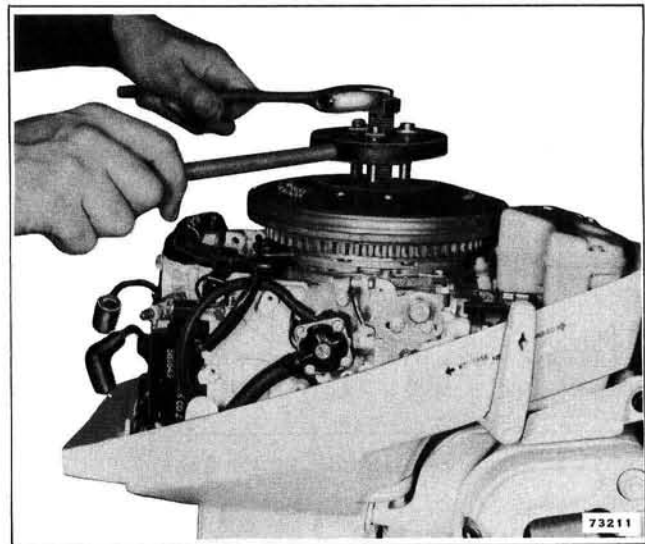

Figure 4-34. Removing Flywheel Nut
a. Remove the flywheel nut using a strap wrench or other suitable tool to hold the flywheel. See Figure 4-34.